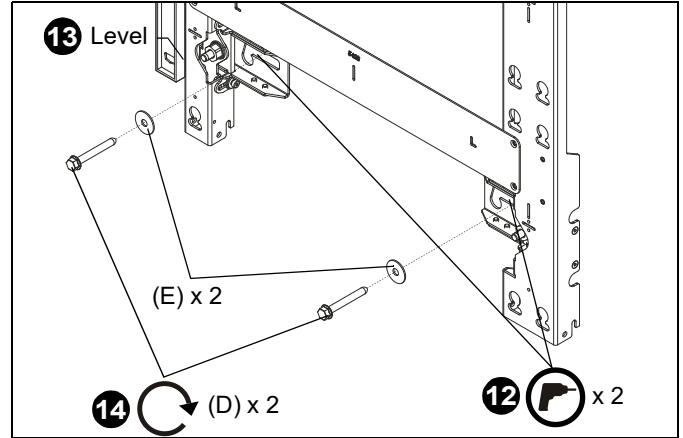

Figure 13
- Drill pilot holes in centerline of lower slots (see Table 1 for size) and follow fastener information (appropriate for wall type) located in Table 1. (See Figure 13)
- Double check the level of the mount along the side of the mount. (See Figure 13)
- Fully tighten the 5/16 x 2-1/2" lag screws (D) through the 5/16" fender washers (E). (See Figure 13)
9. Drill lower pilot holes at attachment locations and use same fasteners used at top of mount. (See Figure 13)